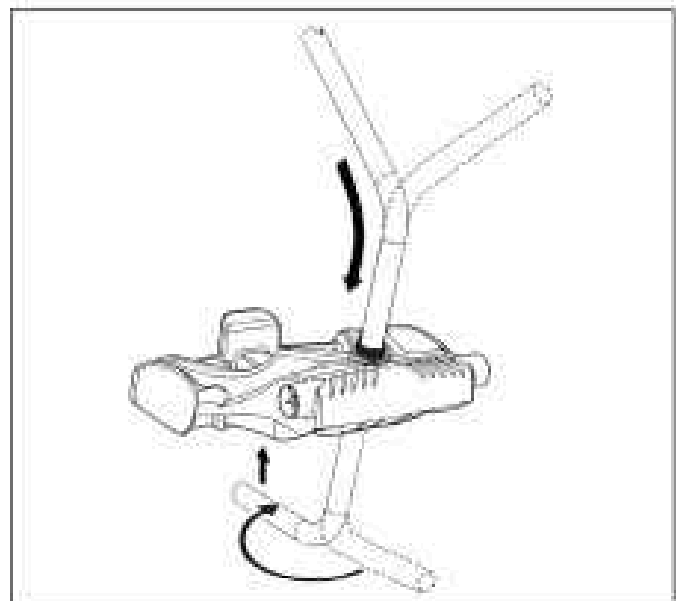

Figure 3. Connect Metal Frame to Base Unit
2. Insert the metal handle frame tubing into the base with notch end at the top, then rotate so the bands are away from you. (Figure 3).
3. Push base down (Figure 3) so the metal handle frame is seated in the recess on the underside of the base.